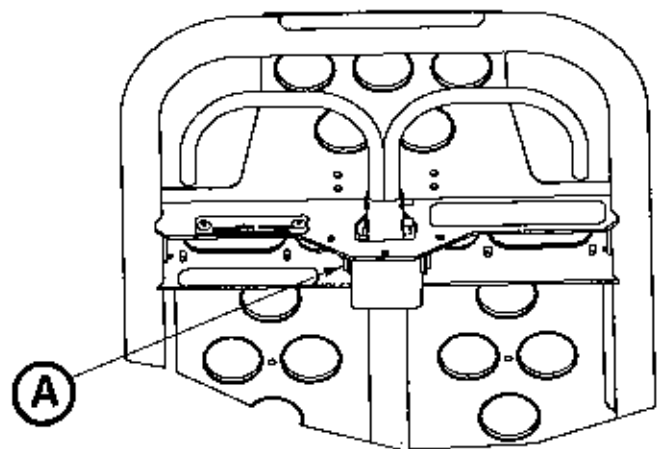

Figure 100
2. Using a 3/32" hex wrench, loosen the set screw (A) that holds the gas shaft to the yoke (Figure 100).